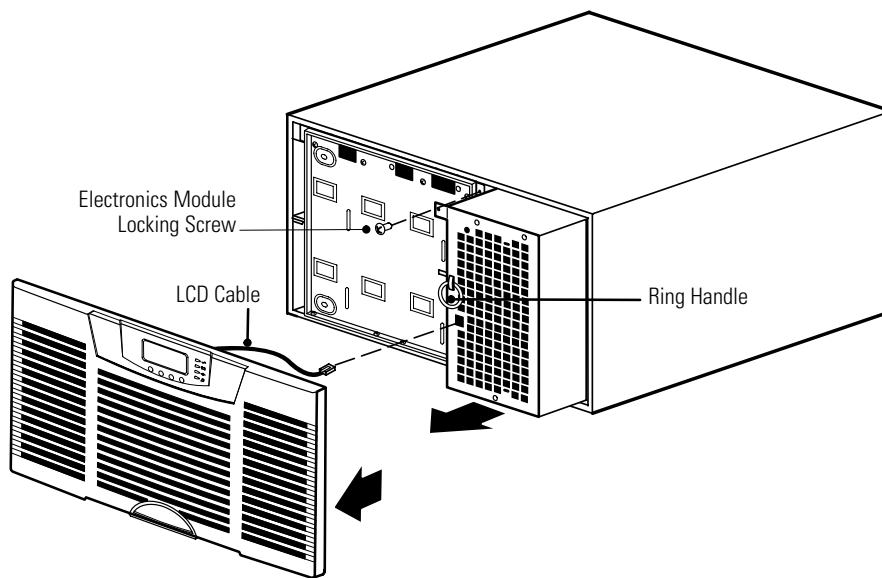

Figure 54. Removing the UPS Front Cover and Electronics Module
3. Remove the UPS front cover and the electronics module and set them aside (see Figure 54):